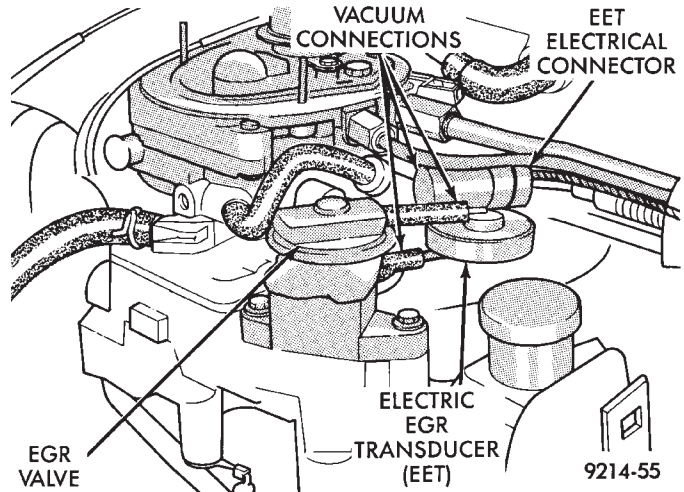
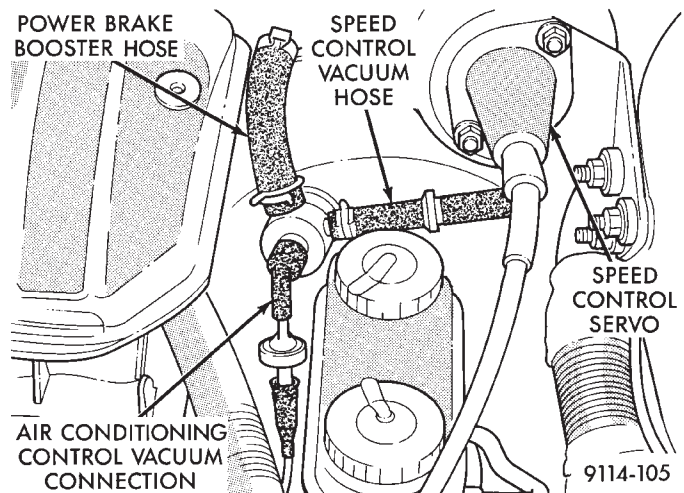

Fig. 11 Throttle Body Vacuum Ports—Rear
Fig. 12 Power Brake and Speed Control Vacuum Connection
(16) Verify hoses are attached to back pressure transducer or electric EGR transducer (EET) (Fig. 11).
(17) Verify heated air door vacuum connection is connected and not leaking.
(18) Verify power brake and speed ctrl vacuum connectors are tight (Fig. 12).